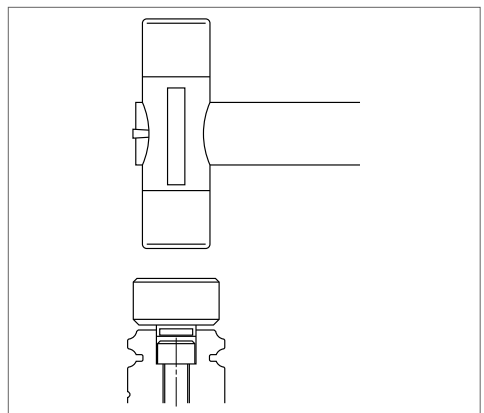

Fig. 7.5
- > To insert the cap into the rail bolt hole, use a flat dolly block (**Fig. 7.5**). Pound the cap gradually until its height becomes flush with the rail top surface.